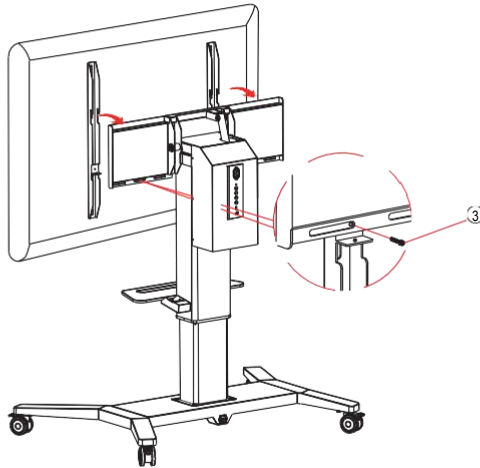

figure 8
Step8: Hang the Interactive Flat Panel to the Electric Stand by Wall Mount, and tighten the screws (figure 8).